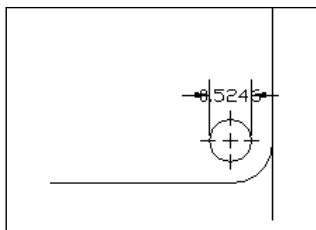

Figure 15-16: A narrow dimension using the Always Keep Text Between Ext Lines option.
- ♦ **Always Keep Text between Ext Lines:** As it says, this option always keeps the text between the extension lines, even if they don't fit. Figure 15-16 shows a dimension using this option.